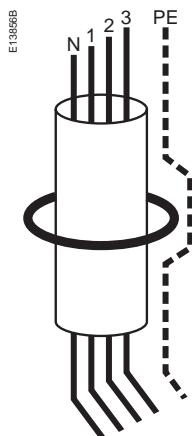

figure 2
- inner diameter of the toroid $> 1.4 \times$ outer diameter of the cable bundle (fig. 2).